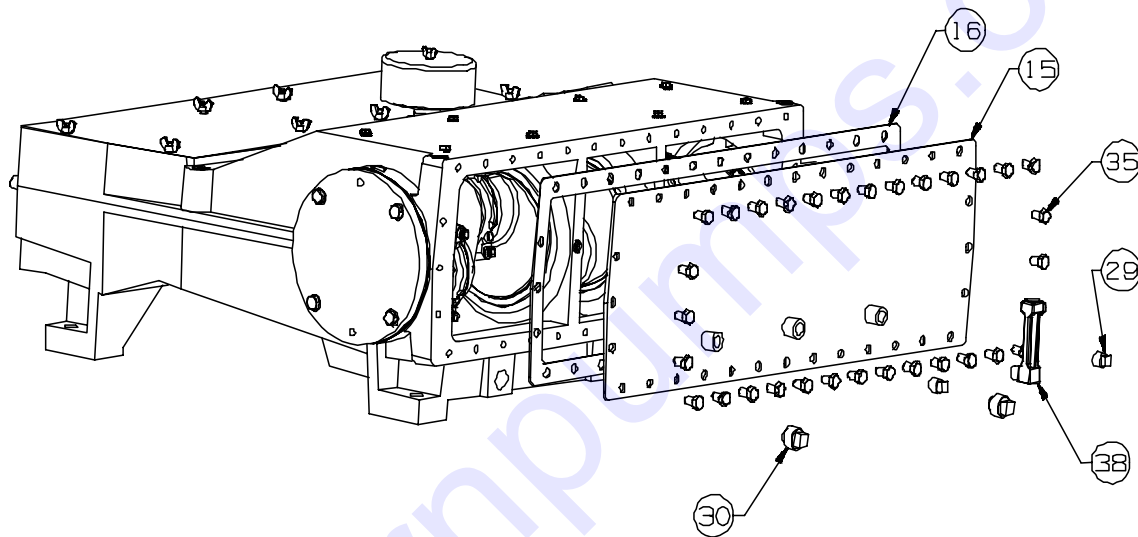

Figure 8: Removing the Back Cover
2. Remove magnetic pipe plugs (30) from bottom of pump and allow all oil to drain from crankcase. The magnetic elements will hold iron wear debris generated by the breaking in of the crossheads in their bores. This debris should be wiped or blown off the magnets before reinstallation. See Figure 8.
3. Remove the 32 rear cover cap screws (35). Remove the back cover (15) and back cover gasket (16) from the power frame. See Figure 8.